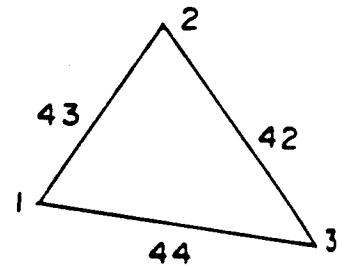

Fig 1
Example : In fig 1 the couples are :
- 5) The searched vertical strains are due mainly to the variation of the angles between bars, but if inclined bars are present, there is part due to variation of respective lengths. See in next item 6 how to consider this. Referring again to fig 1, variation of angle 1 is a function of angles 2 and 3, and the unitary variation of each side; if we call DL the variation of a length L, we can write :
Now, the formula for angle variation. According to the reference, we can write for the variation $D\Delta$ of angle 1 in fig 1 :